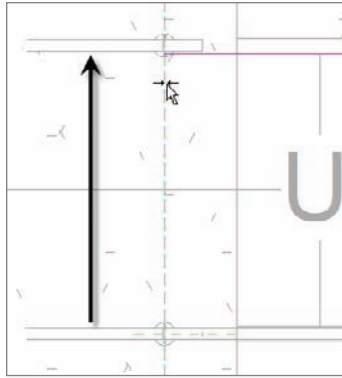

FIGURE 10.21 Copying and aligning the inner railing to the ADA family
1. Copy the ADA - Pipe family up to the inside railing. Make sure you go straight up, as shown in Figure 10.21.
5. Align the magenta line with the ADA - Pipe family, as shown in Figure 10.21.